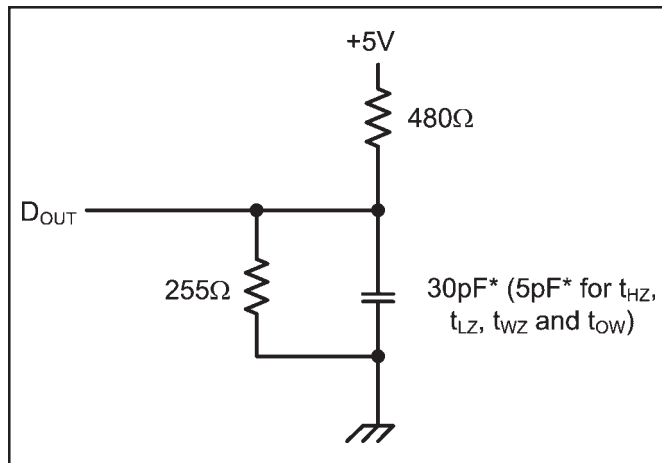

Figure 1. Output Load
- 7. Transition is measured  $\pm 200\text{mV}$  from steady state voltage prior to change with specified loading in Figure 1. This parameter is sampled and not 100% tested.
- 13. Transition is measured  $\pm 200mV$  from steady state voltage prior to change with specified loading in Figure 1. This parameter is sampled and not 100% tested.
Output Load	See Figures 1 and 2